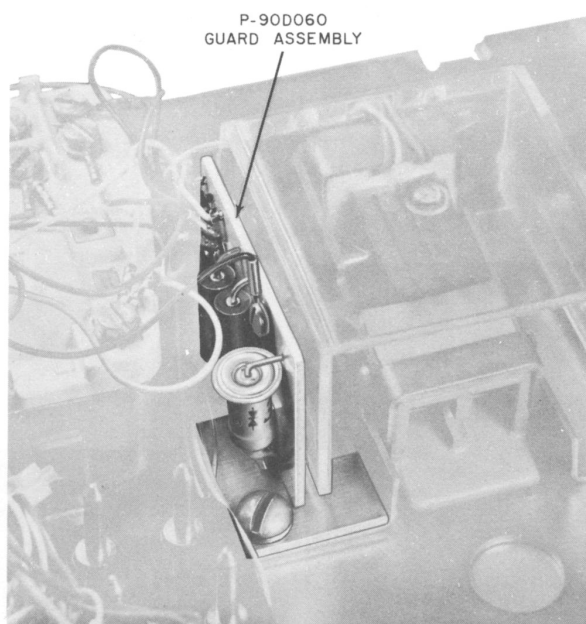

Fig. 3—Installed P-90D060 Guard Assembly
3.04 A optional polarity guard (ordered separately) is available for use with these sets. It is intended for use when specified by local instructions for end-to-end signaling installations, refer to Fig. 3 and Table C for connections.